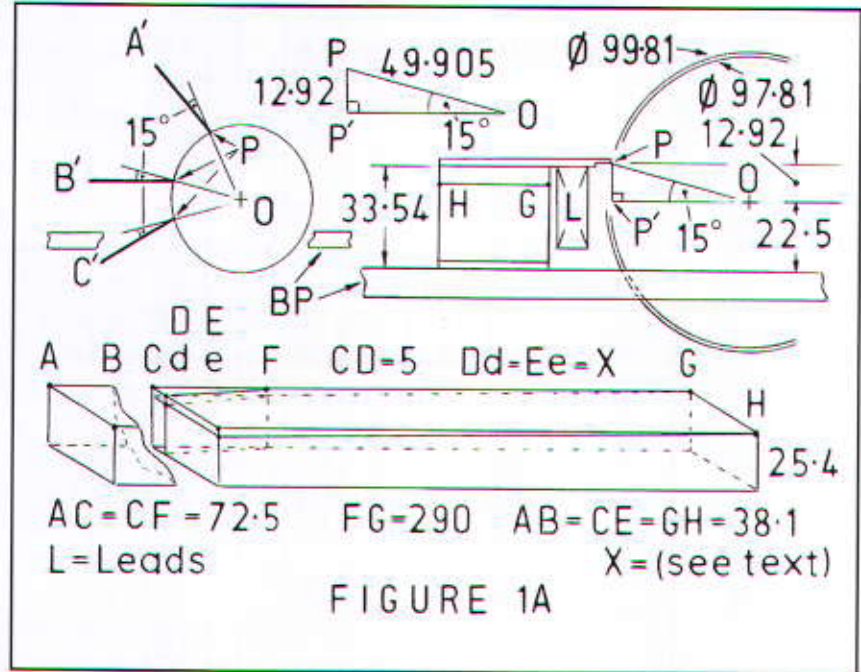
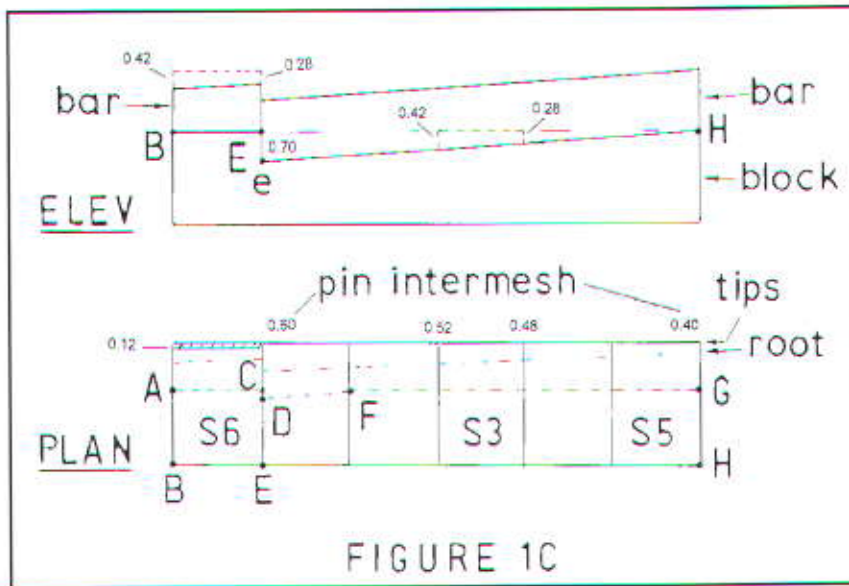
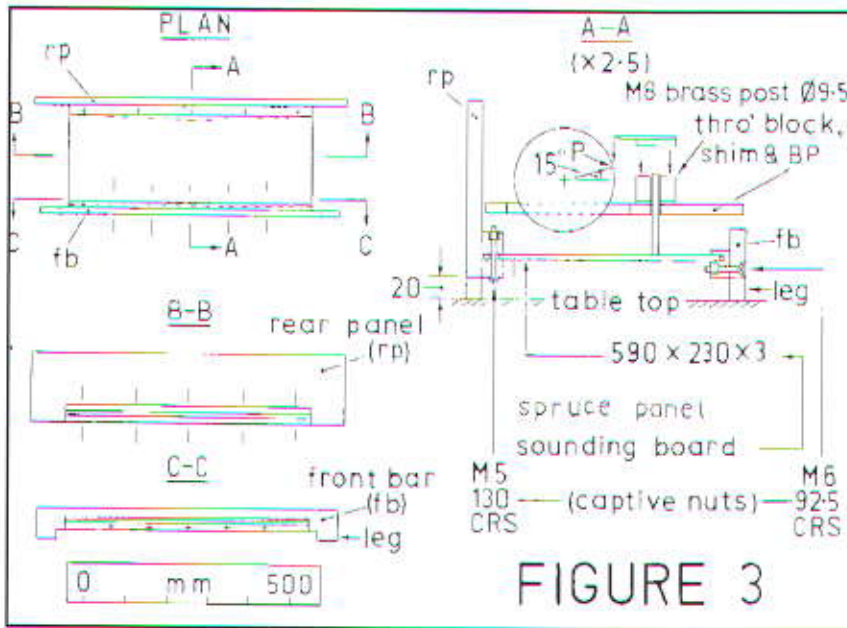
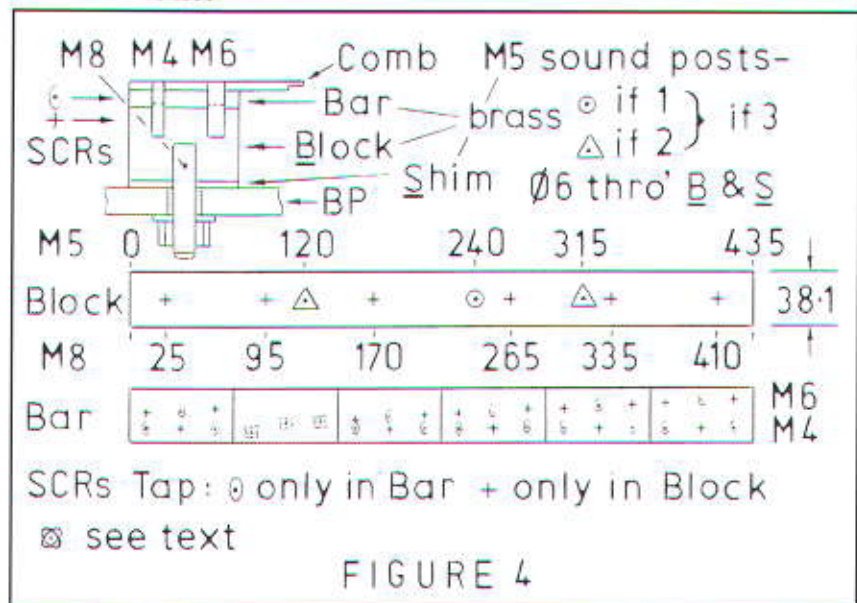

Fig 1A. Comb and cylinder geometry
Fig 1C. Special fitting of teeth T126-150
Fig 3. Sounding board and posts
Fig 4. Comb mounting details
pre-determined bed plate geometry fundamental adaptations of the above criteria were necessary. Working on the basis that "tooth/pin angle" of 15° is essential, attention is drawn to the three hypothetical positions for a comb shown as A, B and C in fig 1A. Assuming that tooth performance is not affected by gravity, it should be possible to set a comb in any orientation around the cylinder, ignoring the position of the bed plate (BP). It would seem that other criteria of the first set above could be disregarded in this build: design shown in the remainder of fig 1A was therefore adopted. This entailed raising the comb on three separate brass components as shown. The block labelled A,G,H,B is 1½"x 1" (38.1 x 25.4mm) standing on a 1.79mm thick shim, with a ¼" (6.35mm) thick bar above which carries the segments of comb. In antique musical boxes the comb is usually sweated onto a cast brass mount, hollow underneath and with top and bottom 'faced' for intimate contact with comb and bed plate. The author's first intentions were to mill out a hollow under his block, but he decided against so doing because minimising cost is not important as this is a one-off build and anyway, the piece was already paid for, also effort of milling would be saved. Also, his comb segments are bolted rather than sweated on the brass mounts to allow for development
Before any metal cutting was undertaken, the assemblage of height 33.54 in fig 1A was simulated by a test mahogany block. This was gradually reduced from fully rectangular to carry the slope finally adopted (see fig 1A) when notes of the 'chord' defined in the previous article played in unison. It was found easiest to check for simultaneous sounding of notes of the 'chord', first with only extreme bass and treble segments fitted, adjusting slope by small decrements and, as correct slope was being approached, fitting all segments carrying teeth T1-125 to check across the full range of the comb. Height reduction of segment S3 gave a guide to the amount of lowering needed for S6 carrying T126-150, the special fitting of which is detailed in fig 1C. These segments require the same intermesh with pins, hence a reduction of teeth lengths by 0.12mm as shown in the figure. A final check with all segments fitted to the wooden test block gave confidence to start work on the brass block. Again, this was milled with diminishing decrements until tooth release across the 'chord' was in unison: this work was carried out only after ensuring that tooth tips
A sounding board was made from 1/8" thick stock spruce panel. It was fixed into the box as detailed in fig 3, with fittings which allow removal for repair or replacement should it warp or split. A slightly curved stringer is used to clamp the sounding board in position in order to spread the load across the grain to minimise the chance of splitting the board which is under tension. Brass sounding posts transmit vibration from the upper brass bar, through holes in main brass block, shim and bed plate to the sounding board. Posts are in slight compression to prevent chatter. Testing of performance with posts fitted in various combinations led to the locations for three posts shown in fig 4.
Having produced the wooden carcass with its sounding board, work could continue to determine geometry of the comb mounting base to achieve unison of striking of notes across the range of the comb. This resulted in setting extreme bass tooth tip (T1) 0.70 +/-0.02 lower than that of extreme treble tooth (T125), shown as X in fig 1A. Special treatment needed for additional teeth T126-150 is shown at fig 1C. Fixing of comb and its supports to the bed plate are detailed in fig 4. The design allows for removal of individual comb segments for repair or modification. Further, the
whole comb with its supporting **bar** can be removed for operations such as grinding tooth tips. Because of unintended juxtapositions of pairs of 4 and 6 dia. fixing holes in the extreme bass segment (marked on fig 4 with double ellipses) a special arrangement for securing it was necessary. Only the larger holes are used: normal fixing is by M5 screws passing freely through the **bar** into M5 tapping in the **block**. If it is required to remove the **bar** with the whole comb, the M5 screws are replaced by short M6 screws into M6 tapping in the **bar**, one at a time to maintain positioning. The bar can then be removed by taking out screws of other segments which pass through into tapping in the **block**. The six M8 studs which are tapped into the main brass **block** pass through 13mm dia. holes in the bed plate allowing for positioning of comb relative to cylinder. At first, the **block** was visually positioned relative to datum lines scribed in marker blue on the bed plate. This phase entailed playing the pinned airs several times, adjusting position of the comb for optimal performance. There was some shedding of tuning leads and damper wires, necessitating removal of the **block**, having first redrawn bed plate datum lines for accurate replacement after repair. The need for such repairs will arise again as further teeth are brought into play by different airs on new cylinders. As the final position of the **block** was approached, brass comb **block** locating brackets, 6mm thick,